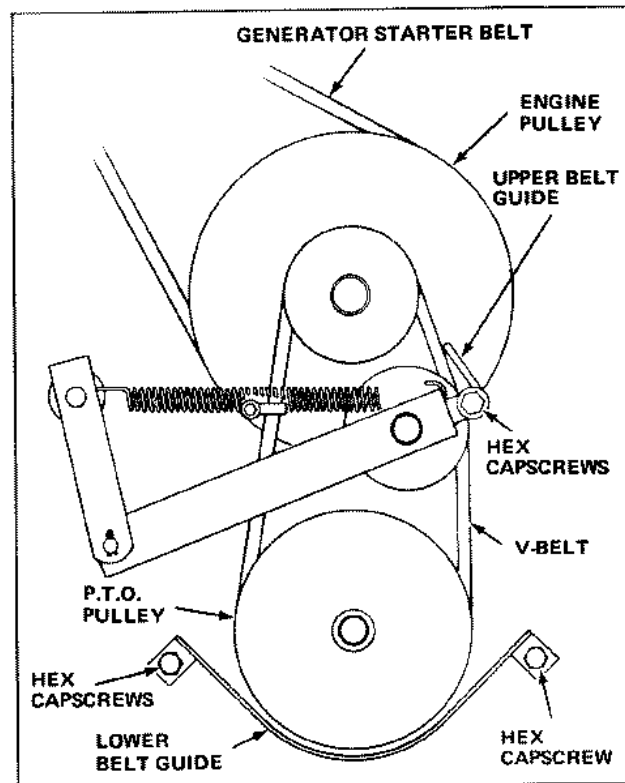

Figure 20
3. With the P.T.O. lever still in the ON position, loosen the hex capscrew which secures the upper belt guide shown in Figure 20. Adjust upper belt guide for 1/8 to 1/4 inch clearance between belt and belt guide. Tighten hex capscrew securely.
## P.T.O. BELT ADJUSTMENT (See Figure 20)